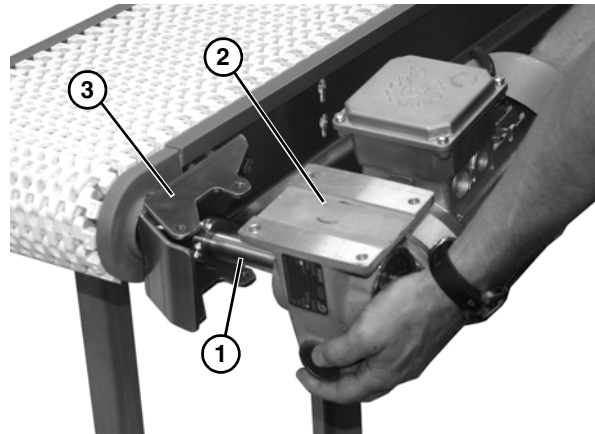

Figure 16
6. Install key onto conveyor shaft (**Figure 16, item 1**), and slide gearmotor assembly (**Figure 16, item 2**) onto shaft and mounting bracket (**Figure 16, item 3**).